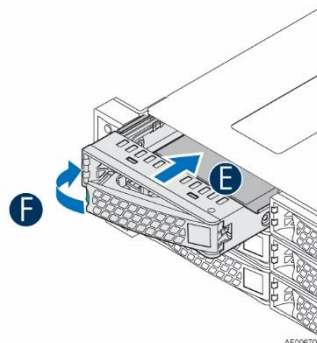

Figure 38. Installing a 3.5" HDD – inserting the carrier assembly
4. With the lever open, insert the carrier assembly into the chassis (E) and push in the lever to lock it into place (F) as pictured in Figure 38.